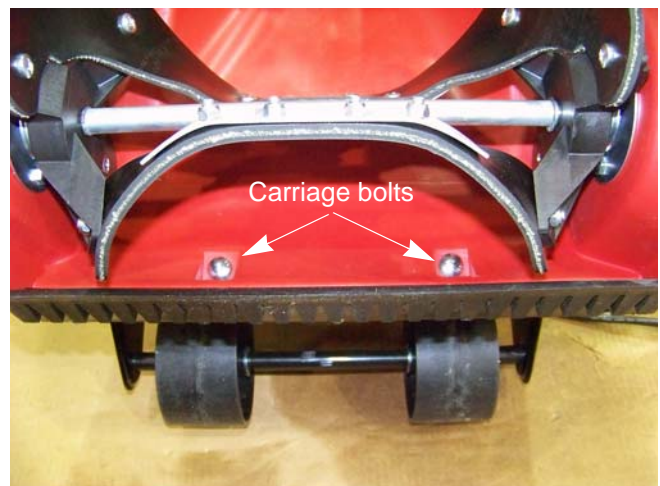

Figure 4.32
6. Remove the two carriage bolts and nuts that hold the lower handle bar to the bottom of the auger housing using a 10mm wrench. See Figure 4.32.